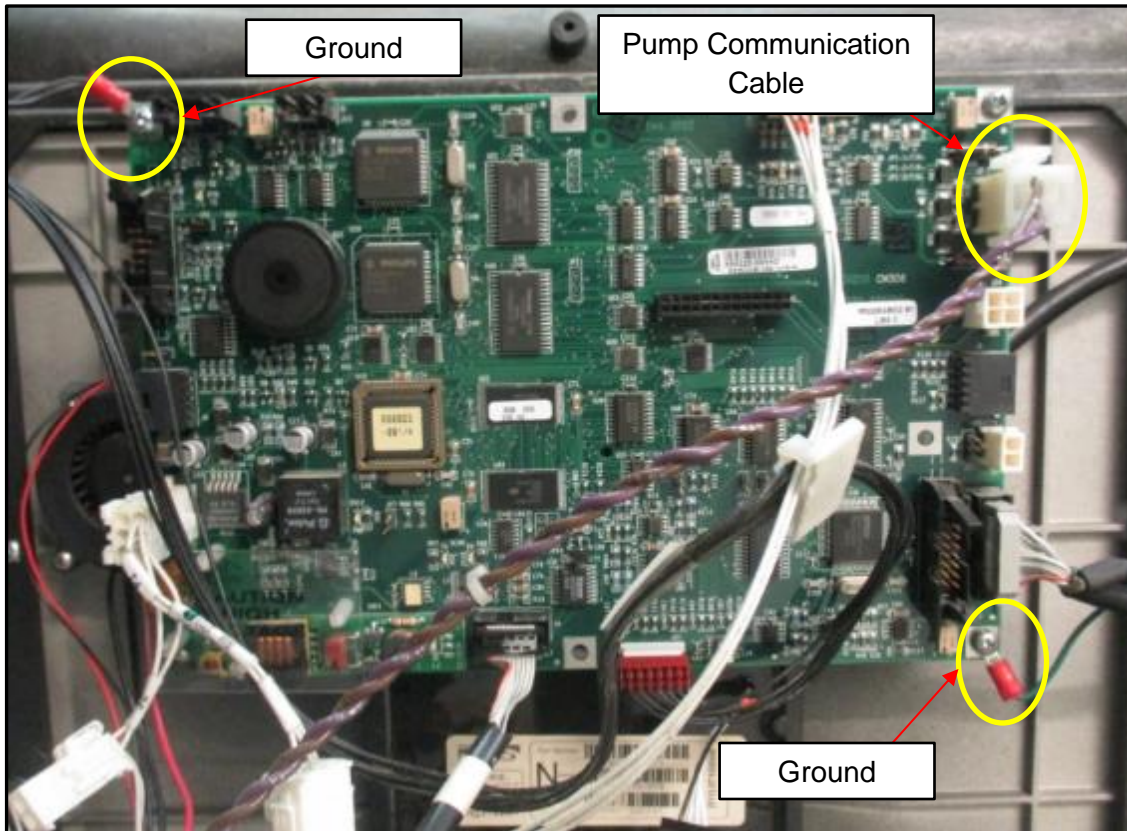

Fig 6 – Unplug every component on the QCAT Board
17. Unplug every cable on the QCAT Board Assembly and unscrew any ground screws that may be fastened to the board. The amount of connections may vary depending on customer specifications when the dispenser was purchased, however, each cable must be unplugged regardless. (Fig 6)